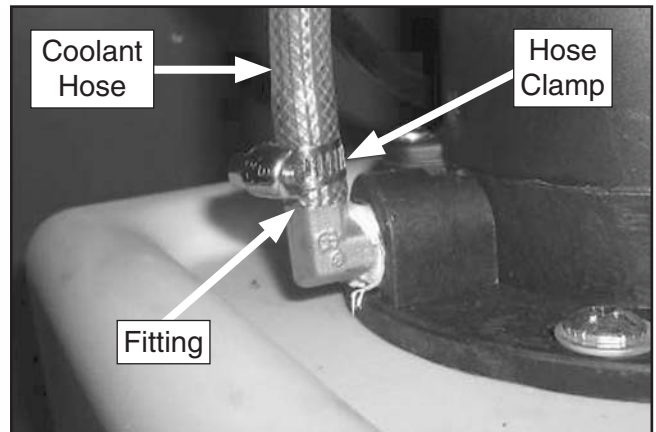

Figure 21. Coolant hose installed.
16. Push hose over coolant tank fitting and secure with hose clamp (see **Figure 21**).